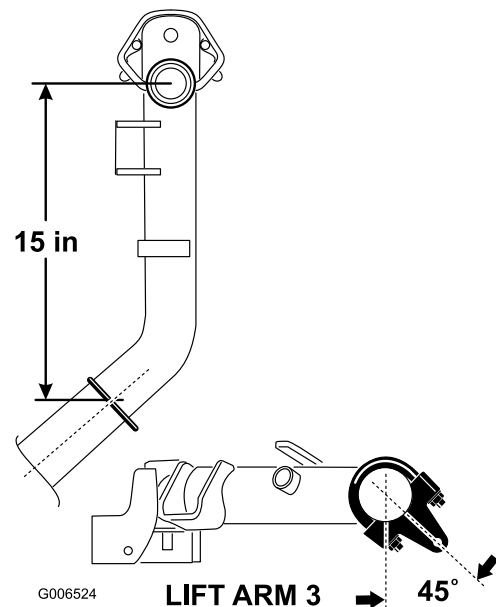

Figure 11
2. On lift arms #2 and #3, position the brackets and U-bolts 15 inches behind the center line of the pivot knuckle (Figure 11). Rotate the brackets 45 degrees to the outboard side of the machine.